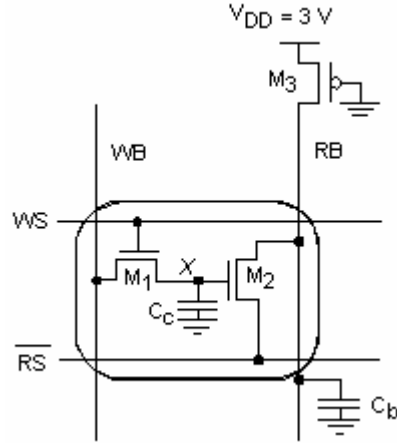

Figure 12.87 2-T memory cell.
6. [M, None, 12.2.3] A two-transistor memory cell is shown in Figure 12.87. It uses two identical transistors (M_1 and M_2) with $W/L = 1.8/1.2$. Separate lines are provided for the read select (RS) and write select (WS), which both switch between 0 and 3 V. You may ignore body effect ($\gamma = 0$), channel-length modulation ($\lambda = 0$), and short-channel effects ($V_{dsat} > V_{dd}$) throughout this problem. Use $k_n' = 19.6 \mu A/V^2$, $V_{tn} = 0.743 V$, $k_p' = 5.4 \mu A/V^2$, $V_{tp} = -0.739 V$.